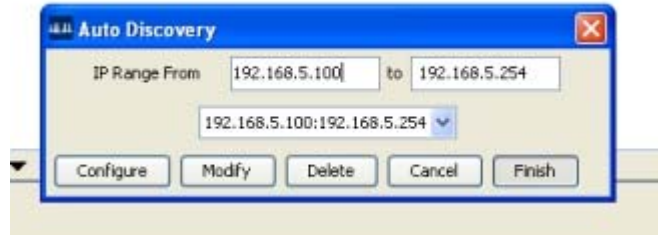

Figure 14-3: Auto Discovery
Step 3. Select the **Auto Discovery** option from the **Module Name** drop-down box. (See **Figure 14-3**)